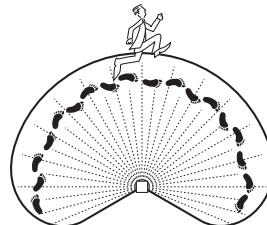

Figure 8
- Walk through the coverage area noting where you are when the lights turn on. Also, the red LED behind the motion sensor lens will flash several times when motion is detected (see Figure 8).